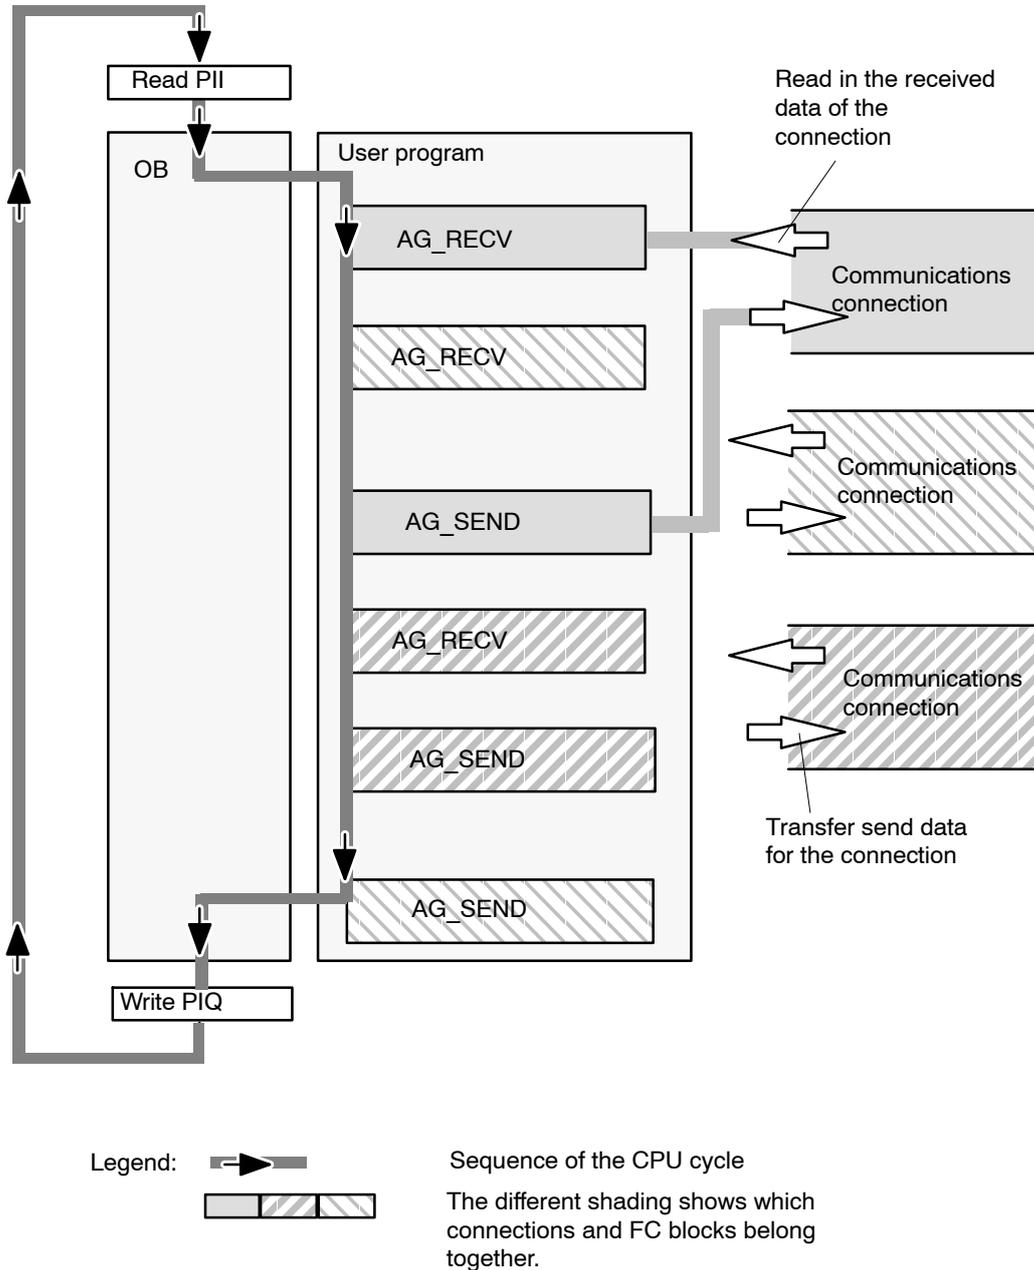

Figure 4-2 Typical sequence of function calls in the CPU cycle
- The user program consisting of any number of blocks (OBs, FBs or FCs → see also /6/ accesses several connections (Figure 4-2 illustrates three connections).